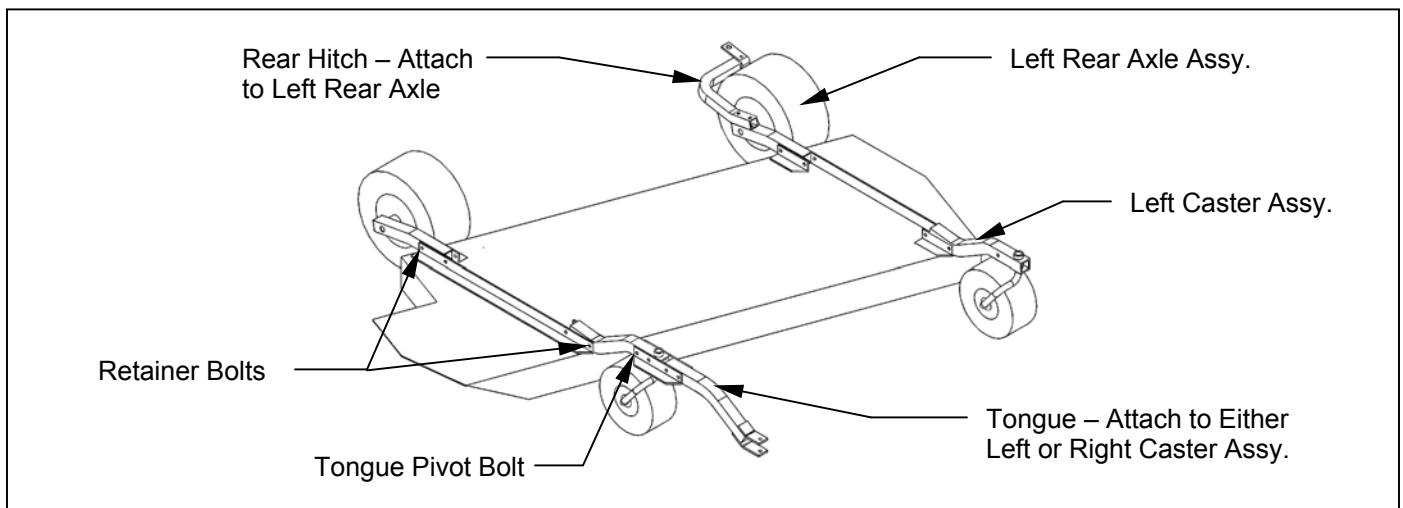

Figure 1: Assembly of Wheels, Tongue and Rear Hitch
2. Install the two caster assemblies in the retainers on the front of the mower deck. **See figure 1.** Secure with 3/8" x 2-1/2" hex head bolt, lock washer, and nut provided in the retainer areas.
3. Install the two rear axle assemblies in the retainers on the rear of the mower deck. The tire should be to the left of the axle support. **See figure 1.** Secure with 3/8" x 2-1/2" hex head bolt, lock washer, and nut provided in the retainer areas.
1. The tongue can be installed either on the left or right caster assembly depending on how the wing mower will be towed. **See figure 1.** Tighten the lock nut on the 3/8" x 2-1/2" pivot bolt so the tongue is free to pivot but does not move sideways.
2. When a second mower is pulled behind the first mower in tandem, then the rear hitch can be installed on the left rear axle assembly. **See figure 1 and 3.** Secure with 3/8" x 3-1/4" hex head bolts, lock washers, and nuts provided.